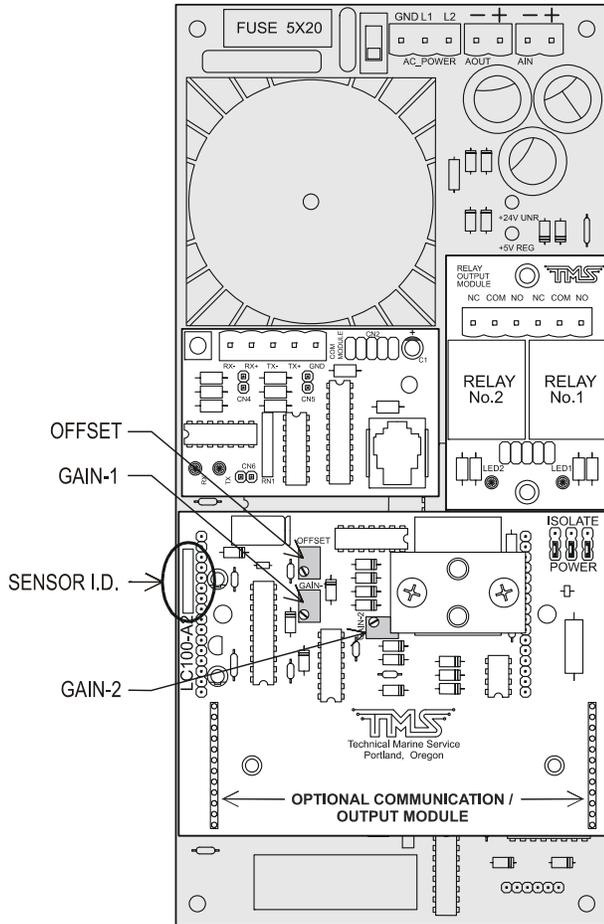

Figure 16 LevelCom 400 Interior Detail
1. Determine the type of pressure sensor installed in the LevelCom 400 by inspecting the white silk-screened area of the Pressure Sensor Circuit Board (Refer to Figure 16 for the location).
- Adjust the **OFFSET** potentiometer on the pressure sensor circuit board until the display reads as shown in the table (Refer to Figure 16 for the location of the **OFFSET** potentiometer). Press **ACK** when this step is done and proceed to step 5.
The instrument will now read the applied pressure in inches of water to an accuracy of 0.1". If the reading is different from this value adjust the **GAIN-1** potentiometer until the correct reading shows on the display, agreeing with the reading on the calibration gauge. (Refer to Figure 16 for the location of the **GAIN-1** potentiometer)
10. The LevelCom 400 display should show a number near 3200. Adjust the **GAIN-2** potentiometer until the correct reading of 3200 is on the display. (Refer to Figure 16 for the location of the GAIN-2 potentiometer)